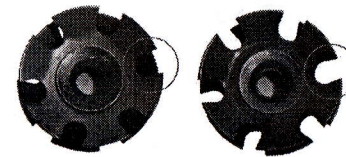

Fig.1
The cable (4) can be wired through the "claws" of a standard star-fangled nut. Please see Fig.1 for details. **Please make sure to not damage the cable!** If this is not an option continue with b).